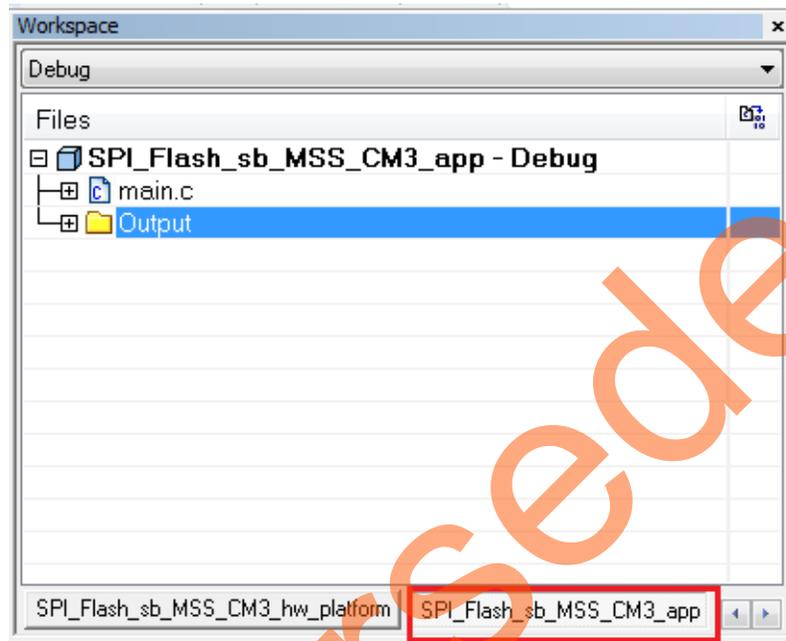

Figure 39 • Debug Window
1. Switch to **SPI_Flash_sb_MSS_CM3_app - Debug** tab from Overview tab as shown in Figure 39.